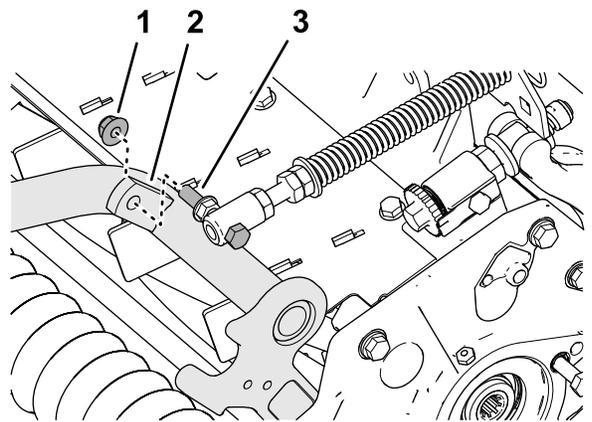

Figure 20
4. Assemble the capscREW of the turf compensation spring to the right tab of the carrier frame (Figure 20) with the flange locknut (3/8 inch).
4. Assemble the capscrew of the turf compensation spring to the right tab of the carrier frame (Figure 20) with the flange locknut (3/8 inch).